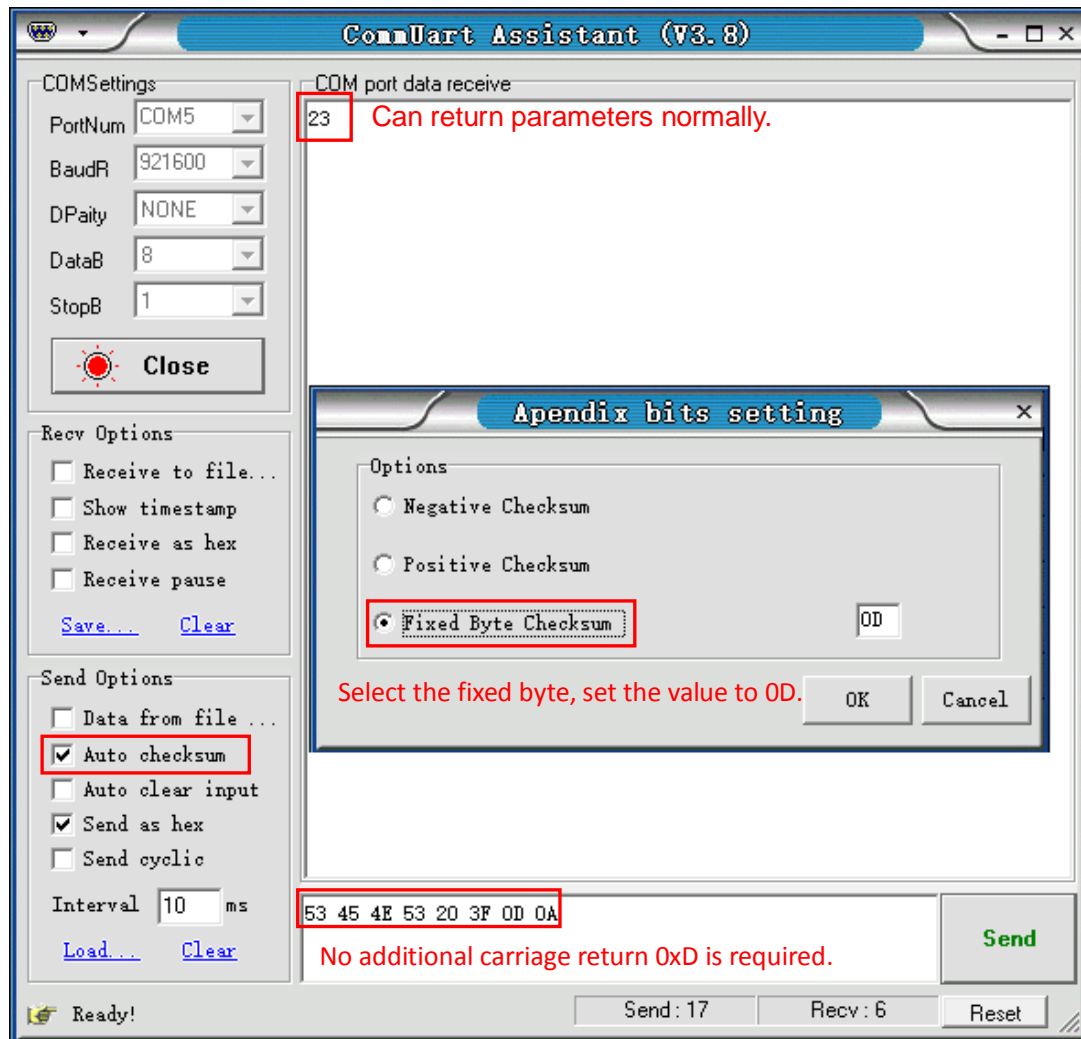

Fig.77 Setting the checksum
2) The serial assistant can be configured to automatically add carriage return 0X0D. You just need to click  **Auto checksum** and choose  **Fixed Byte Checksum**. Finally, set the additional digit to <0D> as Fig.77.